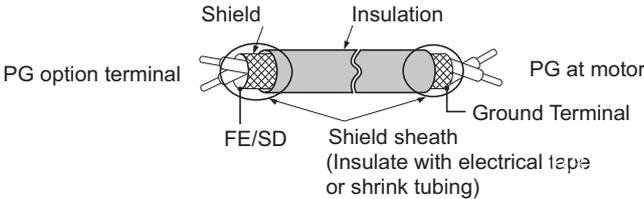
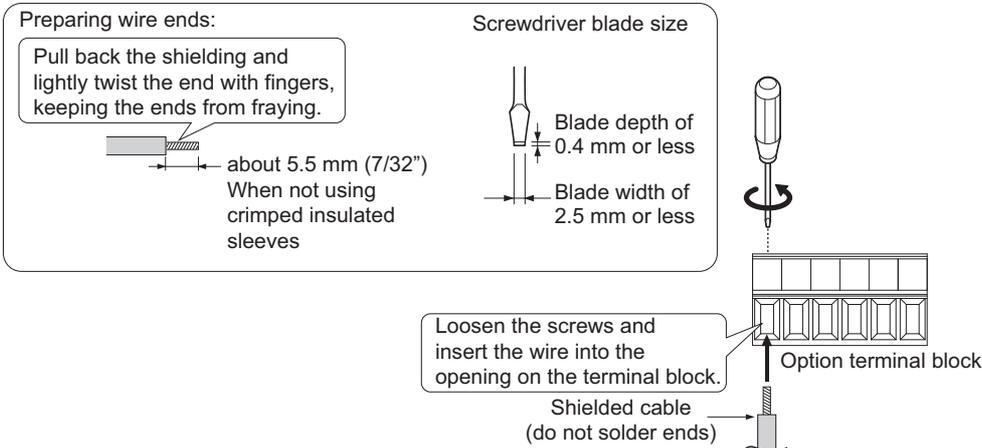

Figure 8.6 Preparing Ends of Shielded Cable
Figure 8.7 Preparing and Connecting Cable Wiring
- There are two screw holes on the drive for use as ground terminals (I). When connecting three options, two ground wires will need to share the same drive ground terminal.
- Prepare and connect the wire ends as shown in Figure 8.6 and Figure 8.7. Refer to Wire Gauges and Tightening Torques on page 442 to confirm that the proper tightening torque is applied to each terminal. Take particular precaution to ensure that each wire is properly connected and wire insulation is not accidentally pinched into electrical terminals.